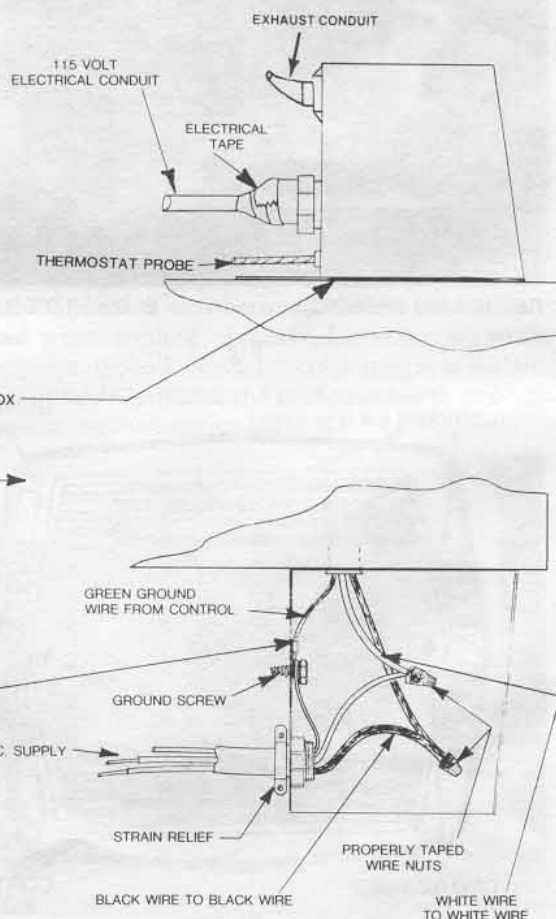

Fig. 21
9. Take the three long bolts and washers that are provided and secure the ceiling assembly to the roof unit, See Figure 21.